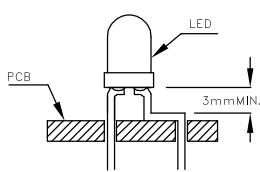

Fig. 5
- Maintain a minimum of 3mm clearance between the base of the LED lens and the first lead bend. (Fig. 5 and 6)